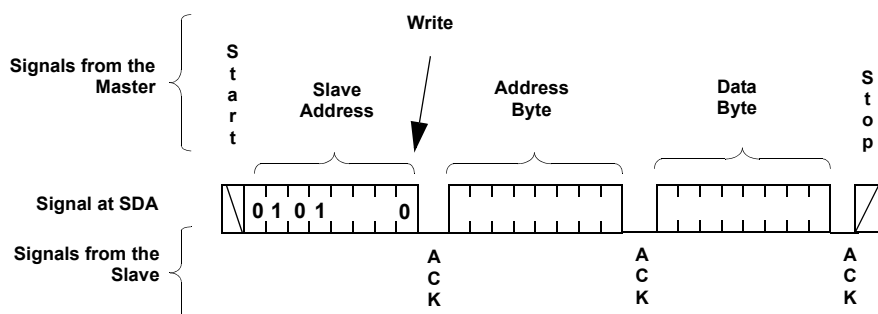
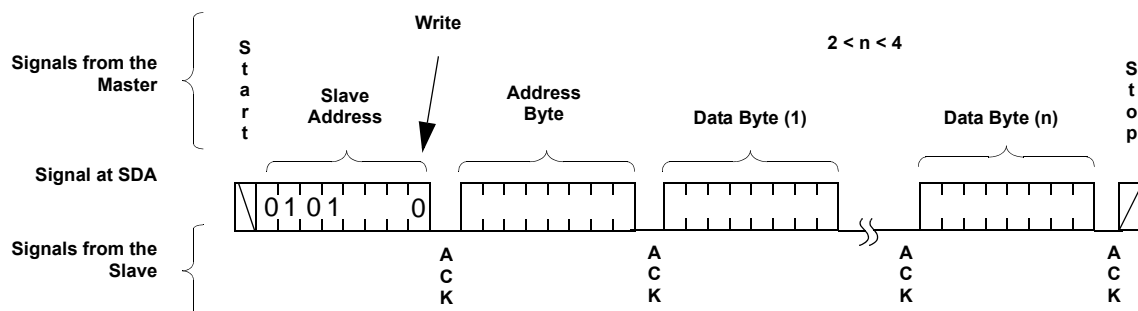

FIGURE 7. BYTE WRITE SEQUENCE
FIGURE 9. PAGE WRITE OPERATION
2. **Access the desired DR or WCR using a new write or read command** (see Figure 7 for write and Figure 9 for read.)
For any Byte Write operation, the X9455 requires the Slave Address byte, an Address Byte, and a Data Byte (See Figure 7). After each of them, the X9455 responds with an ACK. The master then terminates the transfer by generating a STOP condition. At this time, if the write operation is to a volatile register (WCR, or SR), the X9455 is ready for the next read or write operation. If the write operation is to a nonvolatile register (DR), and the \overline{WP} pin is high, the X9455 begins the internal write cycle to the nonvolatile memory. During the internal nonvolatile write cycle, the X9455 does not respond to any requests from the master. The SDA output is at high impedance.
As stated previously, the memory is organized as a single Status Register (SR), and four pages of four registers each. Each page contains one Data Register for each wiper. Normally a page write operation will be used to efficiently update all four Data Registers and WCR in a single Write command. Note the special sequence for writing to a page: First wiper 0A, then 1B, then 1A, then 0B as shown in Figure 9.
transmit up to 4 bytes (See Figure 9). After the receipt of each byte, the X9455 responds with an ACK, and the internal WCR address is incremented by one. The page address remains constant. When the address reaches the end of the page, it “rolls over” and goes back to the first byte of the same page.